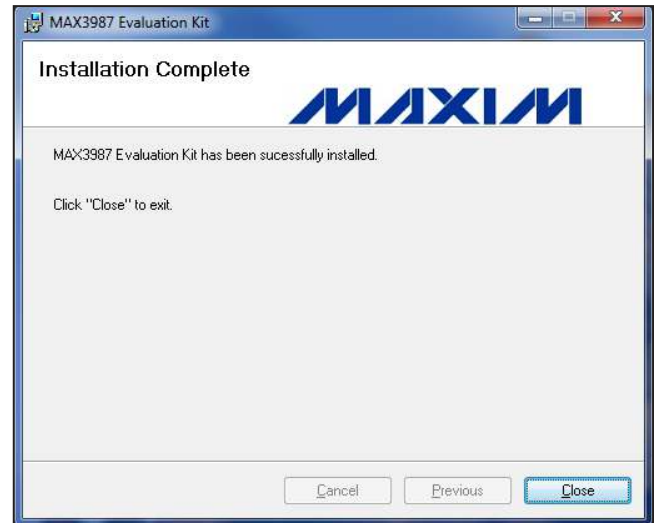

Figure 9. Software Installer Setup Wizard Completion
7) Click **Close** to complete the installation and exit the software installer. See Figure 9.